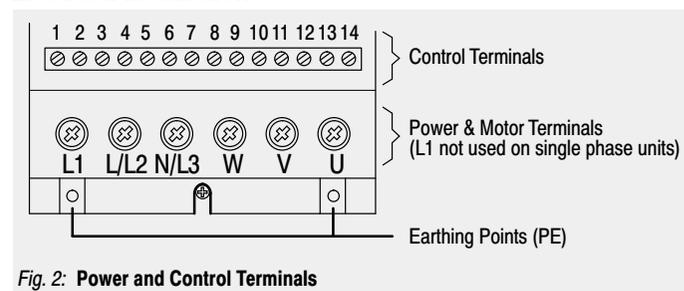

Fig. 2: Power and Control Terminals
Only permanently-wired input power connections are allowed. This equipment must be grounded (IEC 536 Class 1, NEC and other applicable standards). Machines with a three phase power supply must not be connected to a supply via an ELCB (Earth Leakage Circuit-Breaker - see DIN VDE 0160, section 6.5). The power and motor terminals (see Fig. 2) can carry dangerous voltages even if the inverter is inoperative.
- (3) Wherever possible, use screened leads for connections to the control circuitry. Terminate the ends of the cable neatly, ensuring that long strands of unscreened wire are not left visible.
- (4) Separate the control cables from the power connections as much as possible, using separate trunking, etc. If control and power cables cross, arrange the cables so that they cross at 90° if possible. Also ensure that the mains input cables are kept separate from the motor output cables.
- (5) Ensure that contactors in the cubicle are suppressed, either with R-C suppressors for AC contactors or 'flywheel' diodes for DC contactors, **fitted to the coils**. Varistor suppressors are also effective. This is particularly important if the contactors are controlled from the relay on the inverter.
- (6) Use screened or armoured cables for the power connections and ground the screen at the earthing points on the inverter (see Fig. 2).
- (7) Select the lowest switching frequency possible. This will reduce the amount of EMI generated by the inverter.